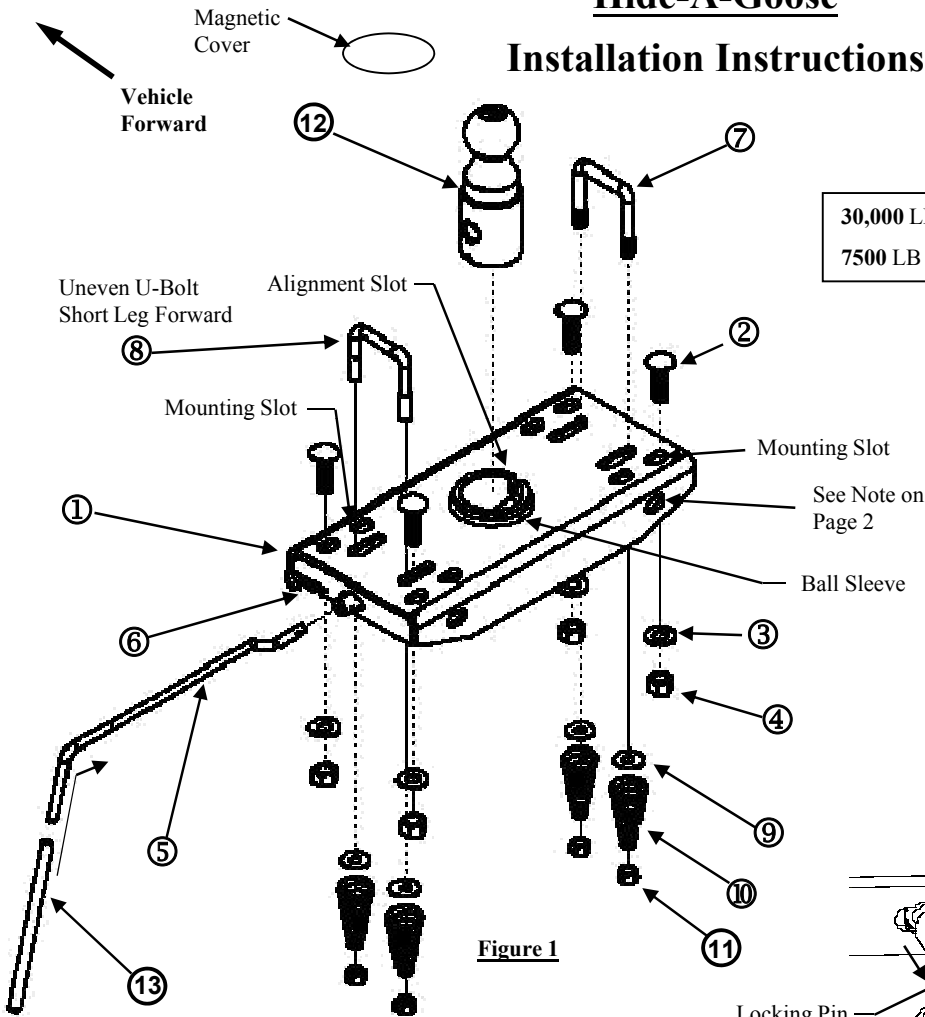

Figure 1
- From under the truck, install the 1/2" flat washers, U-Bolt springs, and 1/2" lock nuts (see figure 1 and 2). Tighten nuts so a minimum of 3 threads are showing passed the nuts.
NOTE: If not installing head on Towing Products manufactured mounting kit, secure the hitch to your mounting system using the four holes in the front and back of the hitch and four 5/8" (grade 5) bolts (not provided). See figure 1. This is in addition to the four vertical bolts provided in the kit and will allow you to obtain the maximum head rating of 30,000 Lb GTW / 7500 TW Lb.